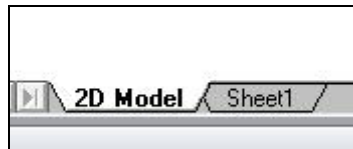
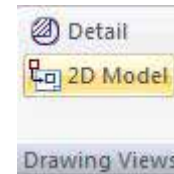

Figure 11.10
Figure 11.11
11.9). With this tool selected, a new tab will be added to the bottom of the graphical screen (Figure 11.10). It is called the 2D Model tab and you can do all the same drawings that you would normally do in Sheet space. If you want to move what you've drawn in the 2D Model space into the Sheet space, you need to select the **2D Model** tool under the **Home** tab on the **Drawing Views** panel but you also need to be working in Sheet 1 tab and not the 2D Model tab (Figure 11.11). Although it might take awhile to get used to drawing and moving objects between 2D Model space and Sheet space, there are very few, if any, new techniques that you would have to learn to use the two different spaces.